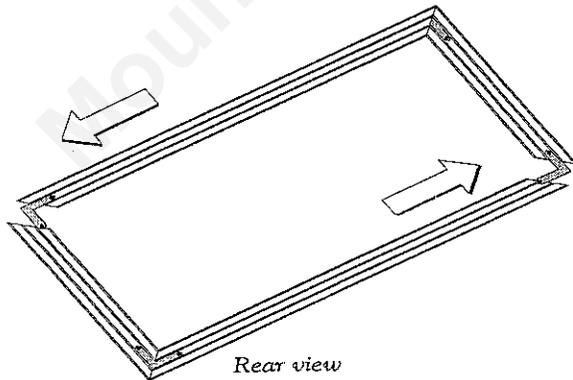

Figure 32.
- Use the two remaining brackets to assemble a complete molding set Fig 32. Be sure that all the screws are tight and that all corners are flush.